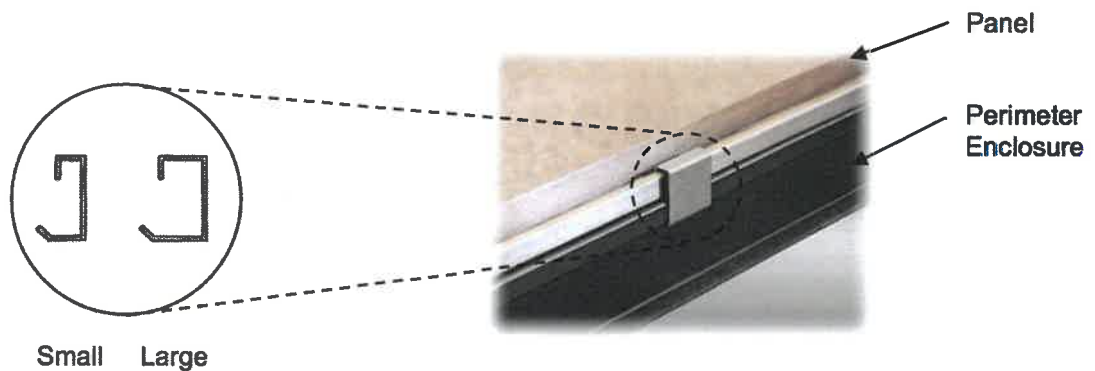

Figure 6, *Hold down clip*
Step 9 Snap two small size hold down clips evenly spaced along the bottom of rear panel the same as shown in figure 6 above for side panels.